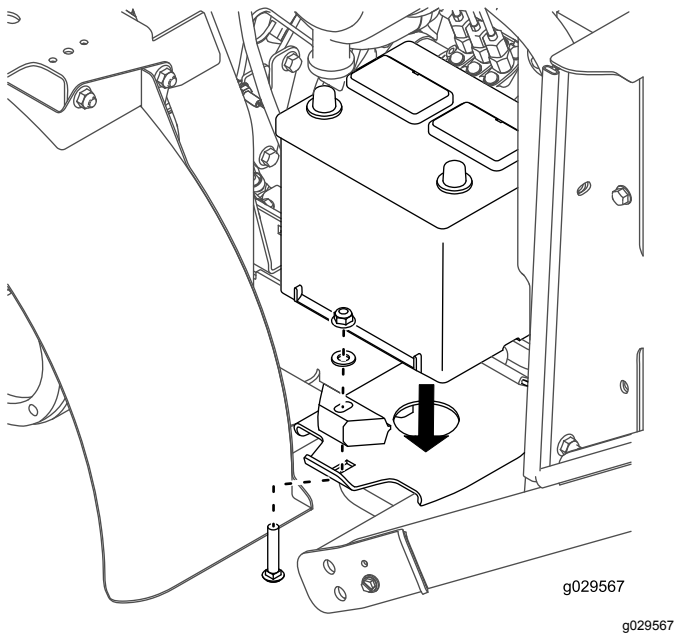

Figure 40
8. Loosely mount the battery to the battery platform with the carriage bolt, hold-down, washer, and nut that you previously removed (Figure 40).